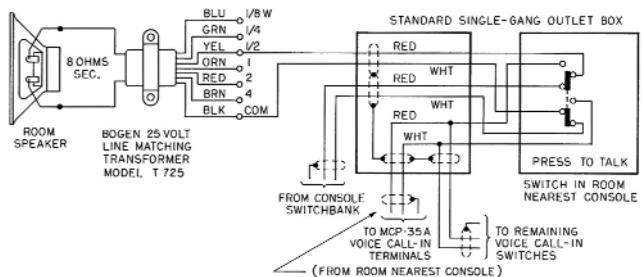

Figure 8 – Wiring Diagram: Room Speaker with Customer-Supplied Voice Call-In Switch
**Voice Call-In Option** – A customer-supplied double-pole, double throw, momentary contact switch maybe used to connect a staff station speaker to the call-in line when the switch is actuated. See Figure 8.
Figure 8 shows room connections and the customer-supplied switch required for voice call-in. The wiring must be completed by connecting the shielded pair from the switch to the terminal strip at the rear of the MCP35A chassis. The polarity of the inner conductors is not critical, but make certain to connect this cable shield to the shield already connected to the terminal strip.